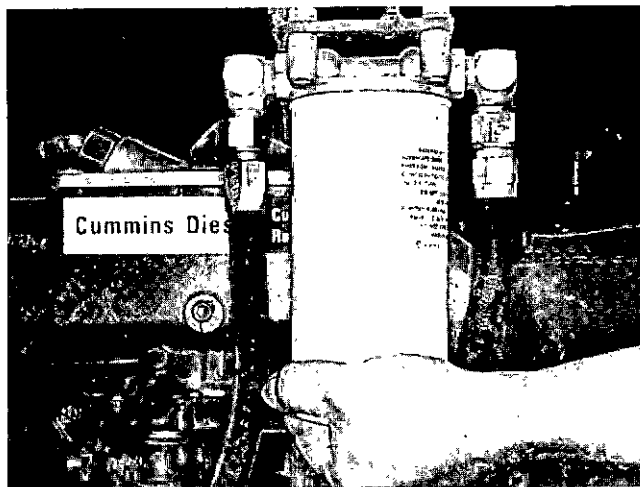

Fig. 2-15 (V11909) Changing throw-away type fuel filter
1. Unscrew combination case and element, Fig. 2-15, discard element.